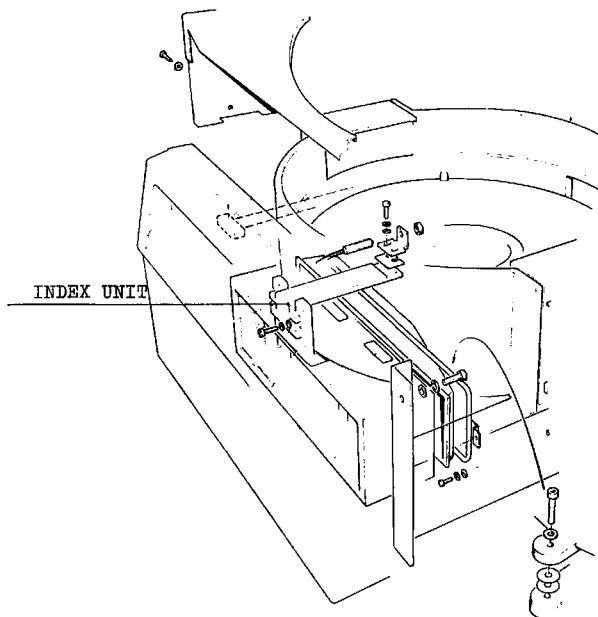

Fig. 7-36 INDEX UNIT
5.15 INDEX UNIT CARTRIDGE (fig 7-36)
5.16 FIXED DISK (fig 7-36 and 7-37)